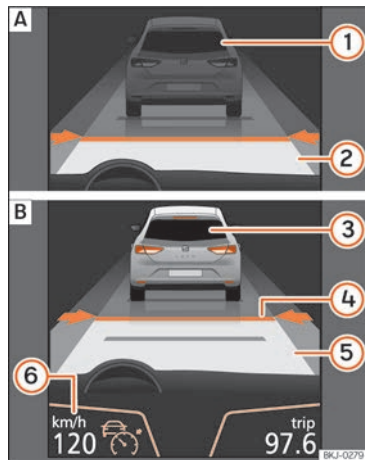

Fig. 274 On the instrument panel display: **A** ACC inactive (Standby). **B** ACC active.
Indications on the display » **Fig. 274:**
When the ACC is connected, the green control lamp (🟢) will light up on the instrument panel, and the programmed speed and ACC status will be displayed »» Fig. 274.
tivated and the current speed and distance are programmed. The picture in the box will change to Active mode »» Fig. 274 (B).
- To set the speed, move the third lever up (+) or down (-) to the desired speed »» Fig. 274 (C). The speed adjustment is made at 10 km/h (6 mph) intervals.
The instrument panel display modifies the selected distance »» Fig. 274 (D). There are 5 distance levels to choose from. SEAT recommends level 3. The set distance can be changed when the vehicle is stopped or while driving »» A.